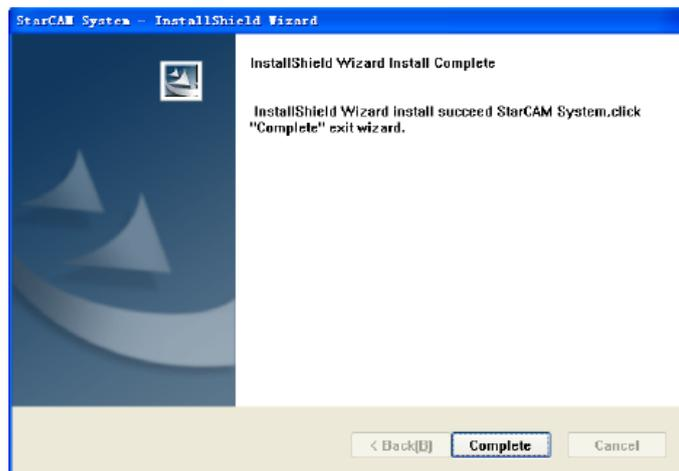

Figure 10
10. When completing the file copying, the interface of installation having been finished appears, as shown in Figure 10.